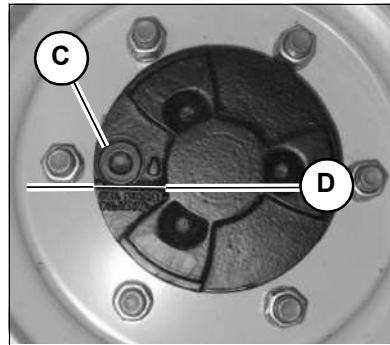

Figure 96 – Wheel-End Axle Oil Level Check
4. Rotate the holes on the wheel ends so they are positioned to the side as shown (C, Fig. 96).
5. Add oil through the holes to the level line (D) stamped on the hub and shown in Fig. 96. See “Fluid Capacities/Lubricants” on page 31 for the specific oil type and grade.